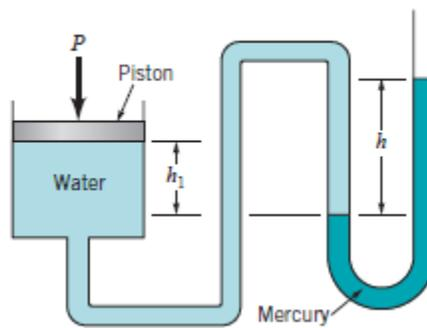

Fig.4
5. A piston having a cross-sectional area of 0.07m^2 is located in a cylinder containing water as shown in Fig.4. An open U-tube manometer is connected to the cylinder as shown. For $h_1 = 60\text{ mm}$ and $h = 100\text{ mm}$, what is the value of the applied force, P , acting on the piston? The weight of the piston is negligible.